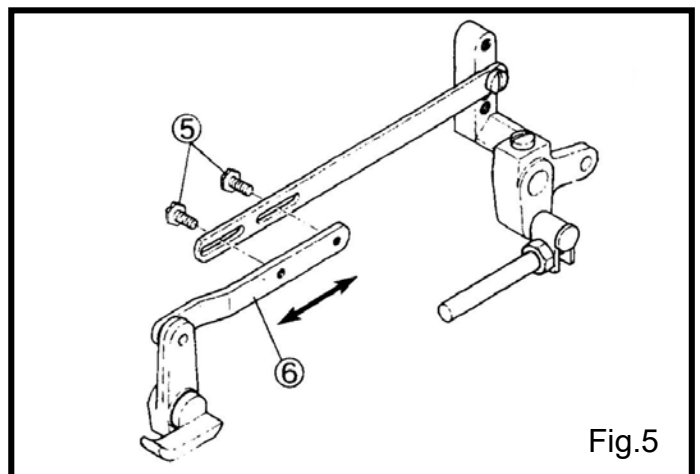

Fig.5
- (2) 放鬆壓腳連接桿螺絲⑤。(Fig.5)
- (3) 移開壓腳連接桿（短）⑥右邊或左邊去調整間隙。
- (2) Loosen the screw ⑤ of the presser foot lifter lever link (long). (Fig. 5)
- (3) Move the presser foot lifter lever link (short) ⑥ right or left to adjust the clearance.